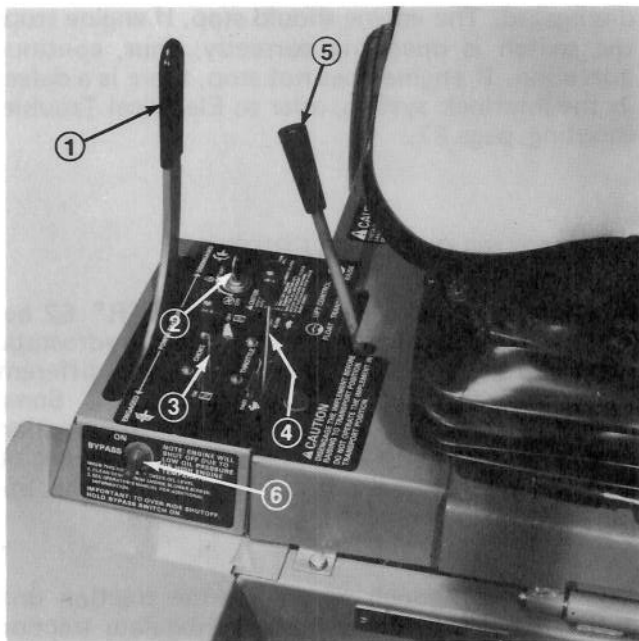

Figure 13
**PTO Lever** (Fig. 13) — The PTO lever has two positions: ENGAGE and DISENGAGE. Push PTO lever fully forward to ENGAGE position to start the cutting unit blades. Pull lever rearward to DISENGAGE position to stop the blades. The only time PTO lever should be in the ENGAGE position is when cutting unit is on the turf and grass is actually being mowed.
**Ignition Switch** (Fig. 13) — The ignition switch, which is used to start and stop the engine, has three positions: OFF, RUN and START. Rotate key clockwise — START position — to engage starter motor. Release key when engine starts. The key will move automatically to the ON position. To shut engine off, rotate key counterclockwise to the OFF position.
**Low Oil Pressure or High Cylinder Head Temperature By-Pass Switch** (Fig. 13) — Overrides engine Low Oil Pressure or High Cylinder Head Temperature shut off switches and allows engine to be operated when switch is held in on position. Avoid prolonged operation of engine using by-pass switch as engine damage may occur.
**Choke** (Fig. 13) — To start a cold engine, close carburetor choke by moving choke control forward to the ON position. After engine starts, regulate choke to keep engine running smoothly. As soon as possible, open the choke by pulling it rearward to the OFF position. A warm engine requires little or no choking.
**Throttle** (Fig. 13) — Throttle is used to operate engine at various speeds. Moving throttle forward
**Hydraulic Lift Lever** (Fig. 13) — The hydraulic lift lever has three positions: FLOAT, TRANSPORT and RAISE. To lower cutting unit to the ground, move lift lever forward into notch in seat cover — FLOAT. The FLOAT position is used for mowing and when machine is not in operation. To raise cutting unit, pull lift lever rearward to the RAISE position. After cutting unit is raised, allow lift lever to move to the TRANSPORT position. Cutting unit must be raised when driving from one work area to another.